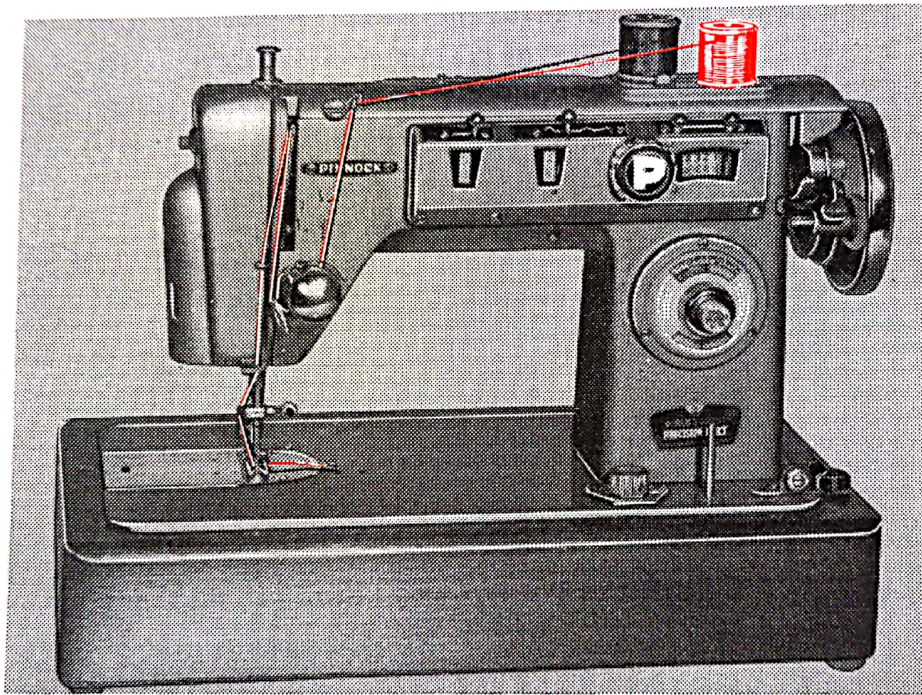

FIG. 52
- Fit the twin needle throat plate (No. 10, page 35). Thread your "SEWMATIC" with two spools of cotton (Fig. 52), being careful that the cottons are separated by the separating disc on the tension control.